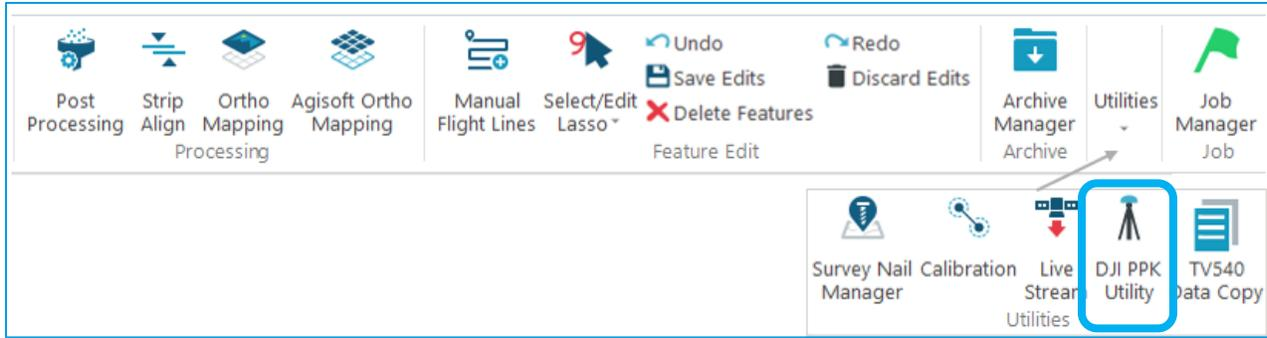
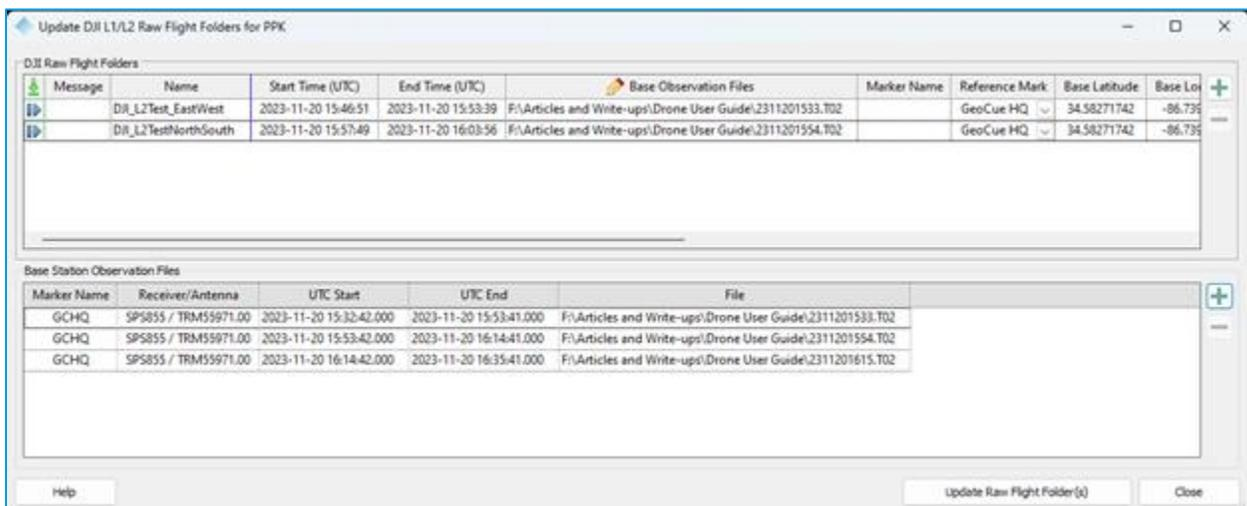

Figure 123 - DJI PPK Utility Tool on the Sensor ribbon
Figure 124 - DJI PPK Utility Dialog
1. Open the **DJI PPK Utility**  located in the Utilities group on the Sensor tab of the LP360 ribbon (Figure 123) to open the DJI PPK Utility dialog (Figure 124).